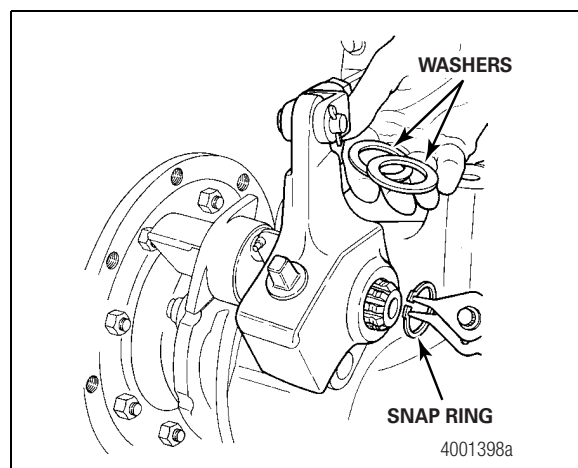

Figure 5.18
7. Install the adjusting lever onto the camshaft. Install the washers and the snap ring. Figure 5.18.